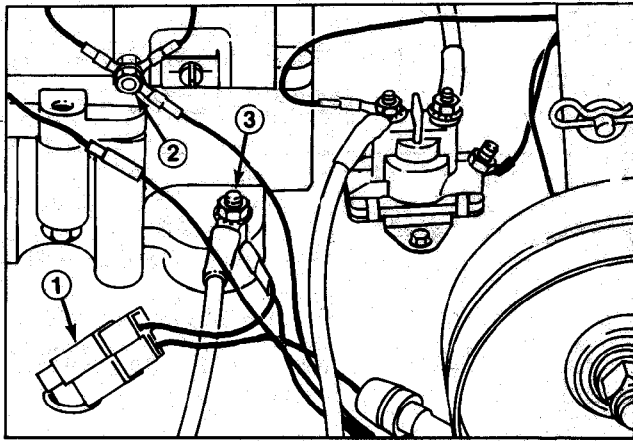

Figure 3
4. Disconnect wire harness from clutch connector, governor plate terminal, engine mounting bolt (Fig. 3) and clutch switch on control panel. Remove cable ties securing harness to handle and remove and discard harness.